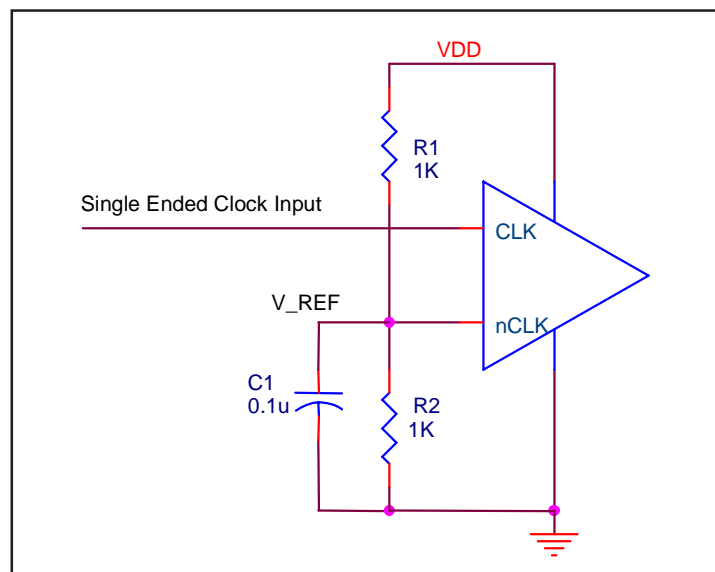

FIGURE 2. SINGLE ENDED SIGNAL DRIVING DIFFERENTIAL INPUT
*Figure 2* shows how the differential input can be wired to accept single ended levels. The reference voltage  $V_{REF} = V_{DD}/2$  is generated by the bias resistors R1, R2 and C1. This bias circuit should be located as close as possible to the input pin. The ratio of